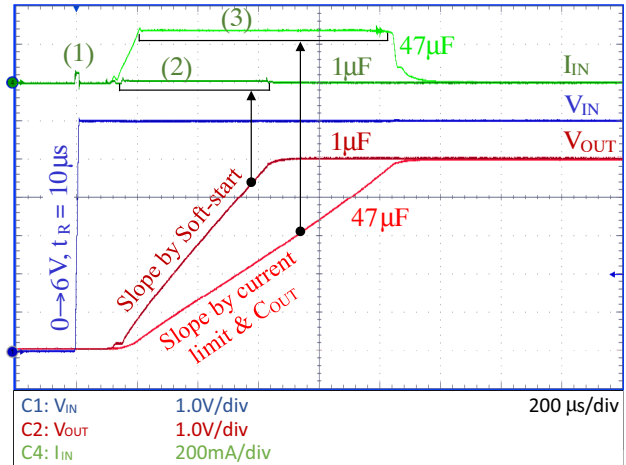

Figure 73.
Now back to LDO application. Here we can see two different inrush current spikes. The first one is caused by the LDO's input capacitor (C_{IN}) charging from zero to the input voltage level. It happens when the previous power block (for example DC/DC) starts providing the input voltage to the LDO circuit. The maximum level of this inrush current is given by Equation 16. It doesn't matter if LDO is enabled or disabled as this inrush current is related only to C_{IN} and it can't be suppressed by the LDO, it is matter of previous power block. This inrush current spike is shown at Figure 73, point (1).